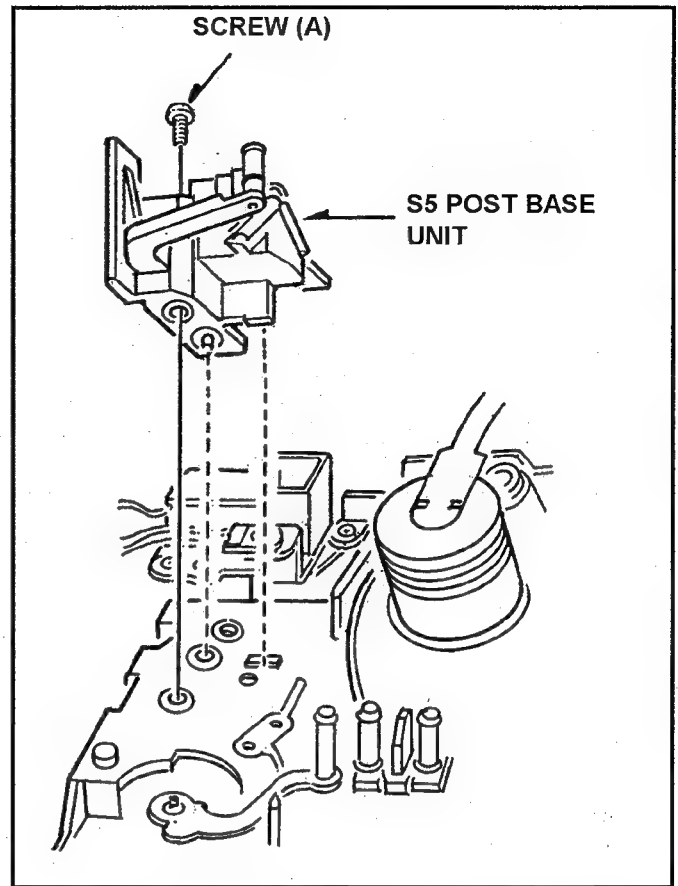

Fig. 10-14-1 Removal of S5 Post Base Unit
2. Unscrew the **screw (A)** and remove the S5 Post Base Unit as shown in Figure 10-14-1.